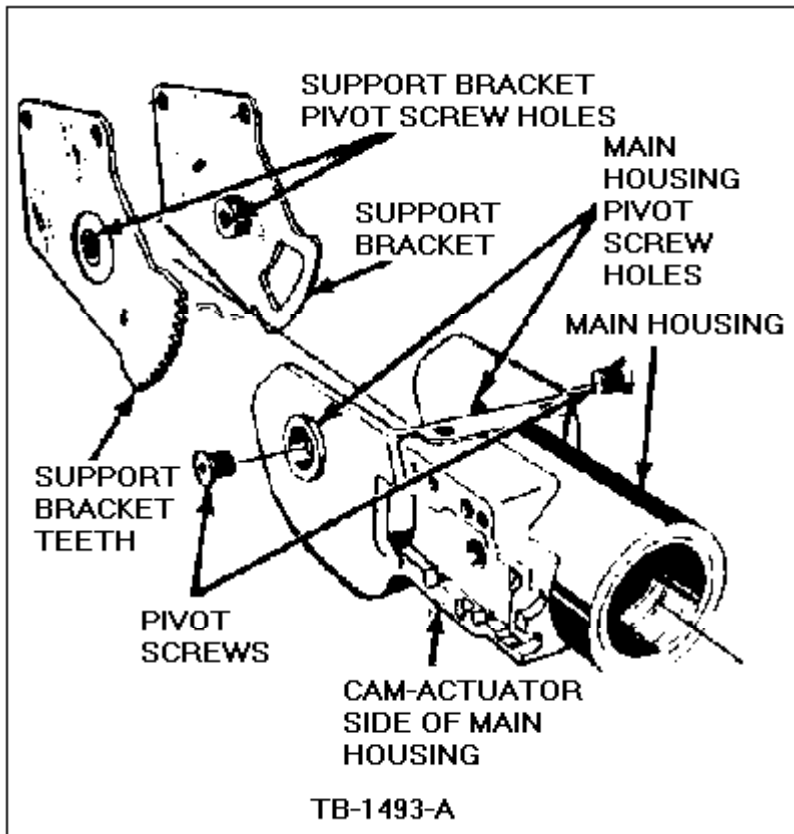

Figure 26 - Article 90-5-10
2. Install the support bracket into the main housing sub-assembly so the support bracket teeth are on the cam-actuator side of the housing and the pivot screw holes are aligned, Figure 26.
3. Turn the two (2) pivot screws loosely into the assembly, Figure 26.